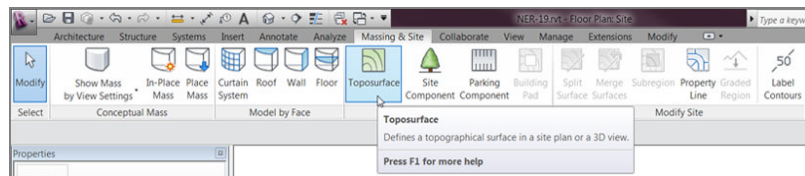

FIGURE 18.1: Click the Toposurface button on the Massing & Site tab of the Ribbon.
4. On the Massing & Site tab, click the Toposurface button, as shown in Figure 18.1.